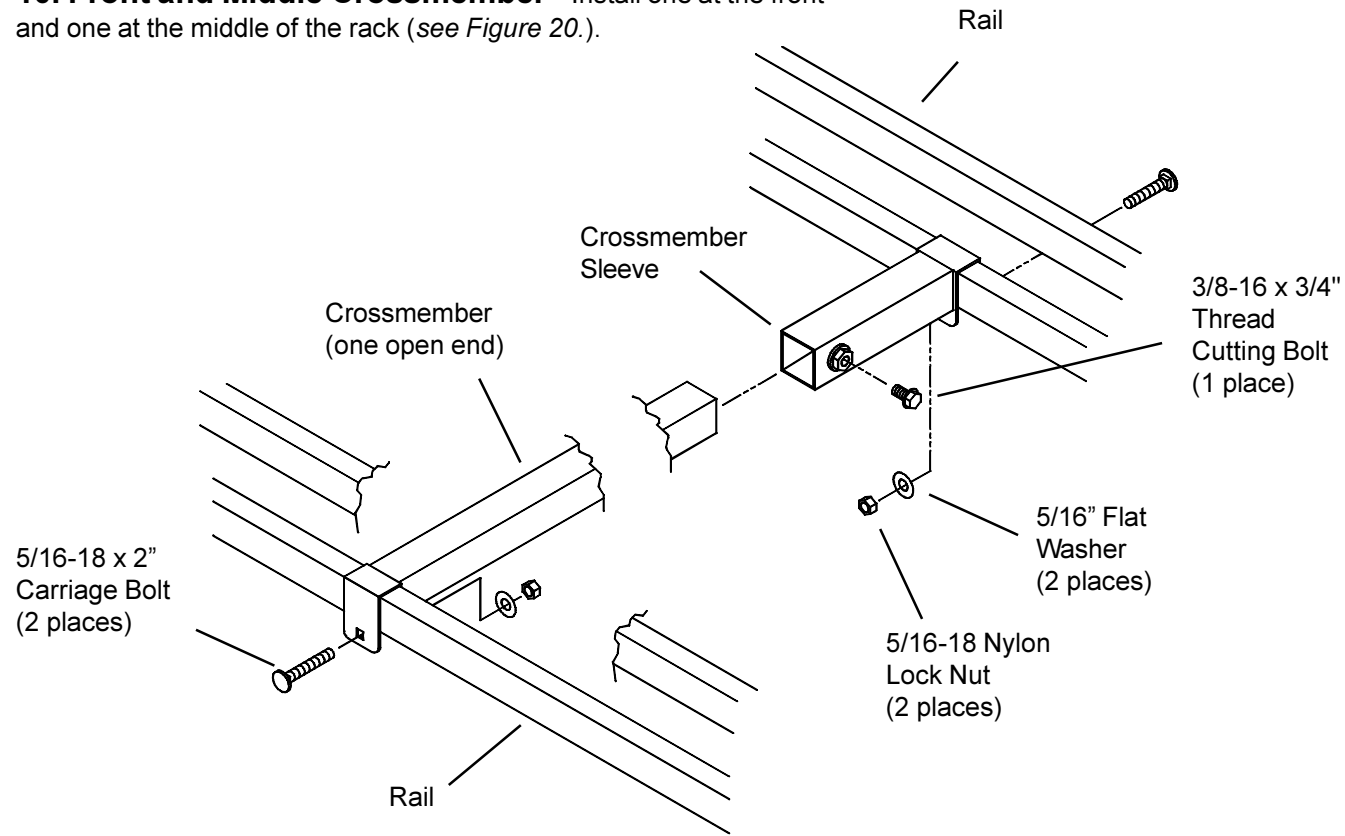

Figure 20. Front and Middle Crossmember Assembly/Installation
10. Front and Middle Crossmember - Install one at the front and one at the middle of the rack (see Figure 20.).